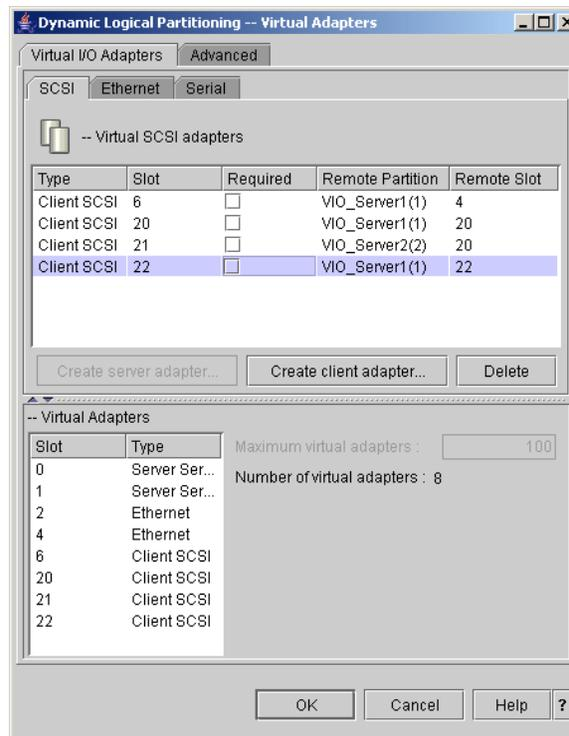

Figure 5-15 Dynamic LPAR virtual adapters window
2. Choose the adapter you want to delete (Figure 5-15) and click the **Delete** button.